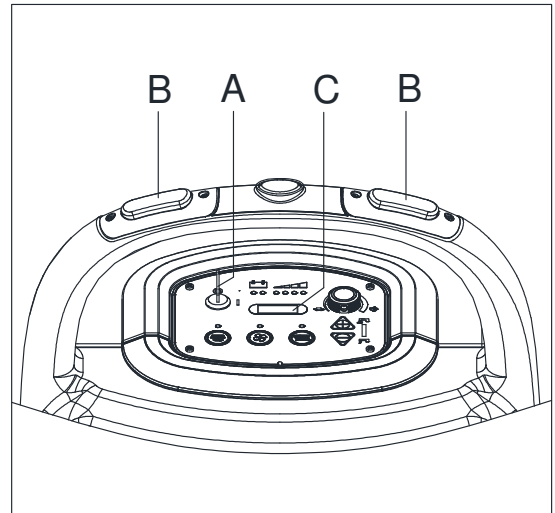

Figure 22
1. Turn the ignition key (A, Figure22) to "I".
2. Press the switch (B), the hour meter (C) begins to work and it at the same time shows the total number of working hours (scrubbing/drying) performed by the machine.
3. Release the switch (B).
4. Turn the ignition key (A) to "0".
1. Turn the ignition key (A, Figure22) to "0".